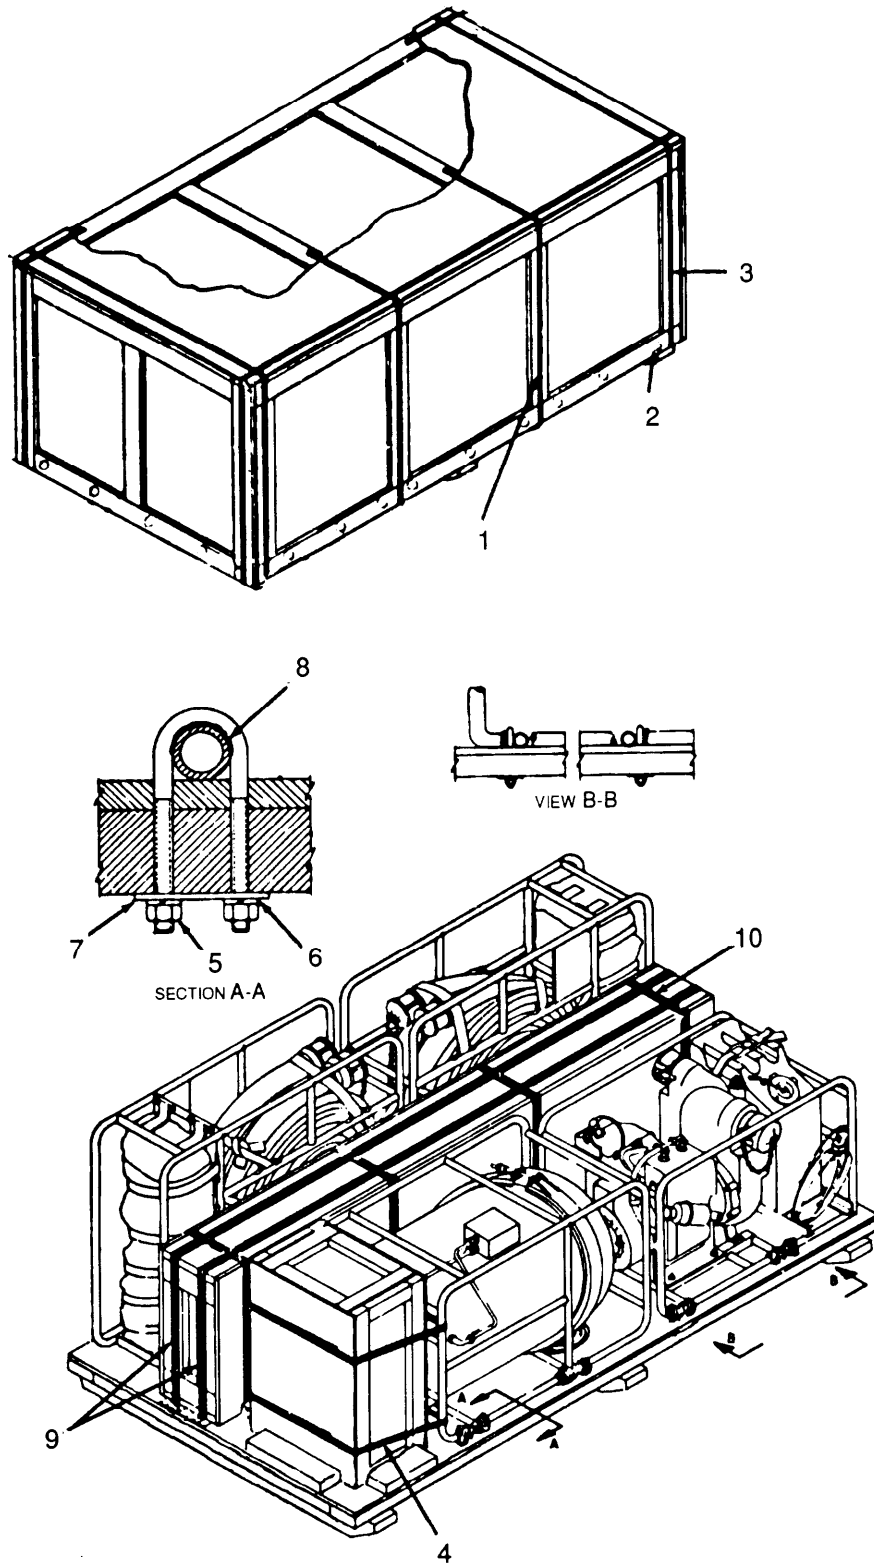

Figure 4-1. Unpacking Instructions.
- a. Unpacking Equipment (Refer to Figure 4-1)